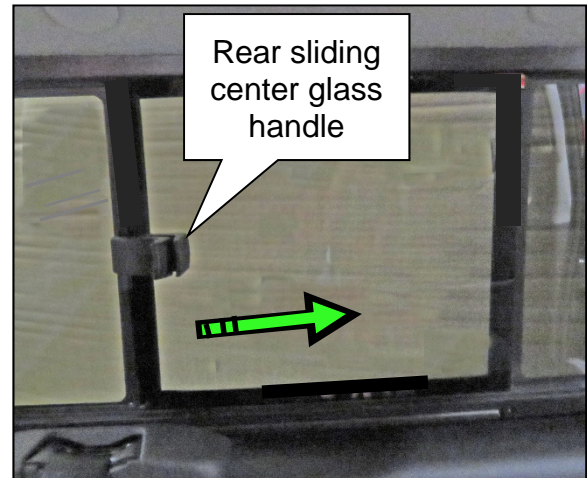

Figure 3
1. Squeeze the rear sliding center glass handle and move the rear sliding center glass fully to the driver (LH) side of the vehicle (Figure 3).